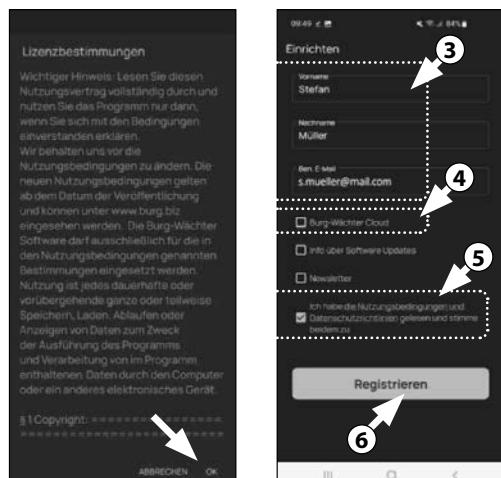

Fig. 3
- ③ Enter your name and a mail address (Fig. 3).
④ Select them the item: "BURG-WÄCHTER Cloud" this is not required for the setup and can therefore be ignored for the time being (Fig. 3). An explanatory note on this subject can be found in the master operating instructions on our website (see link on the title page).
- ⑤ Read through and agree to the terms of use and privacy policy (Fig. 3).
- ⑥ Tap on "Register" (Fig. 3).